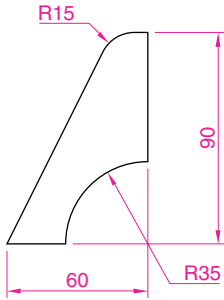

Fig. 17.12 Third example UCS – outline for 3D model
3. Construct the outline in Fig. 17.12 and extrude to a height of **120**.